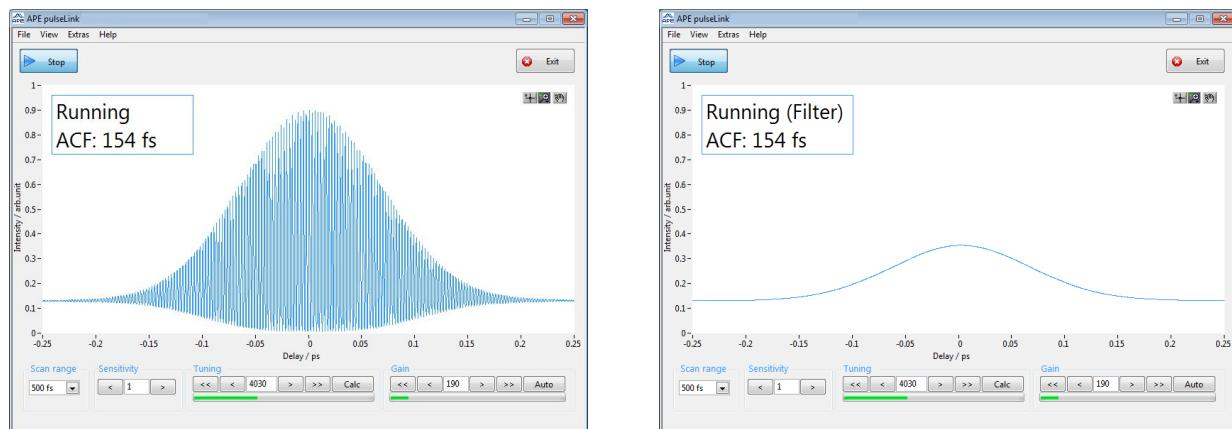

Figure 4.22.: Collinear autocorrelation measurement before (left) and after (right) suppression of the interference fringe structure by the activated filter
**"Filter":** Activate / de-activate a low-pass filter function to suppress fringes or noise substructure on the autocorrelation trace (see Figure 4.22).